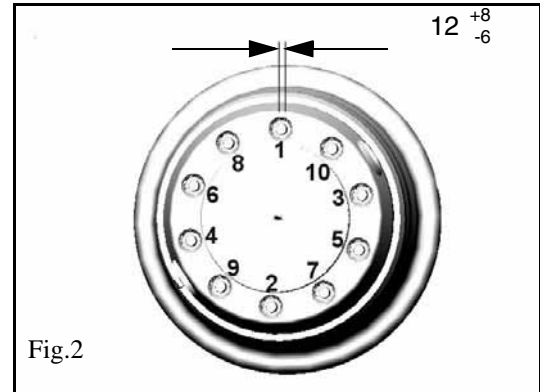

Fig.2
- Insert the lock-ring with the aid of specific tools or with levers and a suitable mallet. Check correct seating of the lock-ring by measuring the dimension of the gap shown in Fig 2.